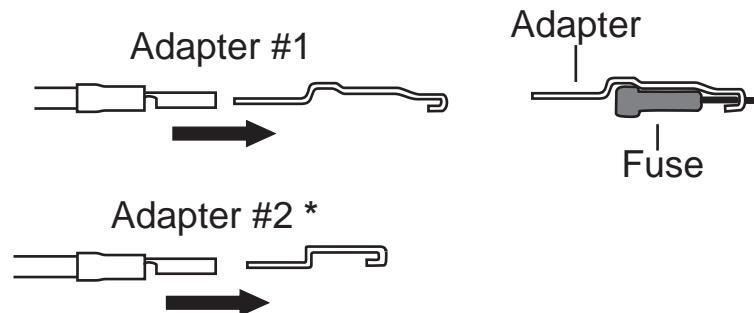

fig. 7
- a. Route the AL004 (PK-10GA) wire to a 15A ignition source (G).
- b. Strip off $\frac{1}{4}$ " insulation off both sides of the inline fuse holder (N) and the AL004 (PK-10GA) wire.
- c. Crimp on the weather proof yellow butt splice (M) to AL004 (PK-10GA) wire.
- d. Crimp on the weather proof yellow butt splice (M) to one side of the inline fuse holder (O).
- e. Select the appropriate type of fuse tap in terminal for your application (fig. 7).